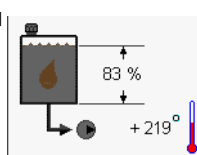

FIGURE 2-2
2. Check the hydraulic oil level daily when the oil is cold by looking at the hydraulic tank display on the information screen in the cab (Figure 2-2).